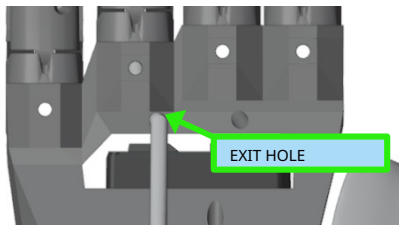
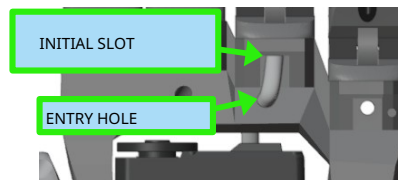

Figure 5.31: Tube insertion into the tendon exit hole (rear view)
Figure 5.32: Insertion into the initial slot (front view)
1. Insert the PTFE tube into the exit hole (on the back of the skeleton) of the flexion tendon (figure 5.31), make it come out from the entry hole on the front of the skeleton and insert it into the initial slot figure 5.32)